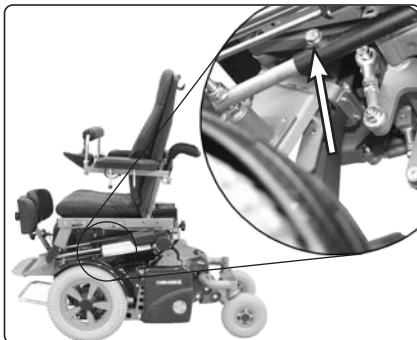

Fig. 13. Adjustment of the slope of the leg rest.
1. Loosen the screw located on the leg rest's strut. The strut is located under the seat, behind the actuator on the left-hand side of the seat, see Fig. 13.